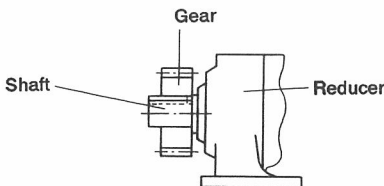

Fig.7
- Install sprocket and gears so that their point of load application will be closer to the gearmotor or reducer side with respect to the length of the shaft. (Fig.7)